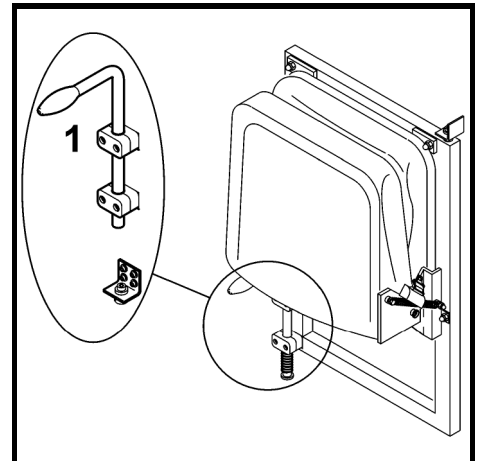

Fig. 4
The lever (Fig. 4, pos. 1) serves to lock the auxiliary seat into position either beside the operator's seat or against the cab's wall. To rotate the seat, pull the lever (Fig. 4, pos. 1).